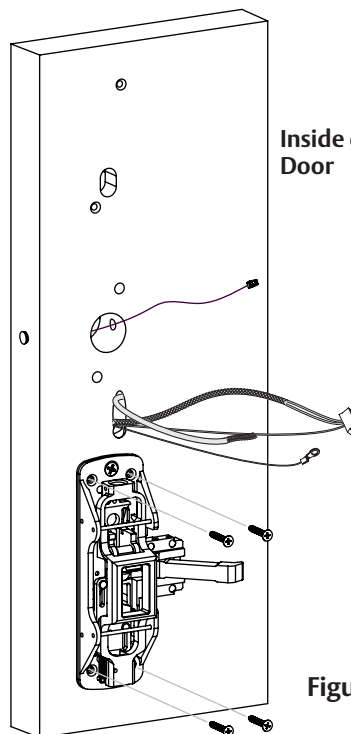

Figure 9-3C
6. Secure exit chassis (Figure 9-3C)